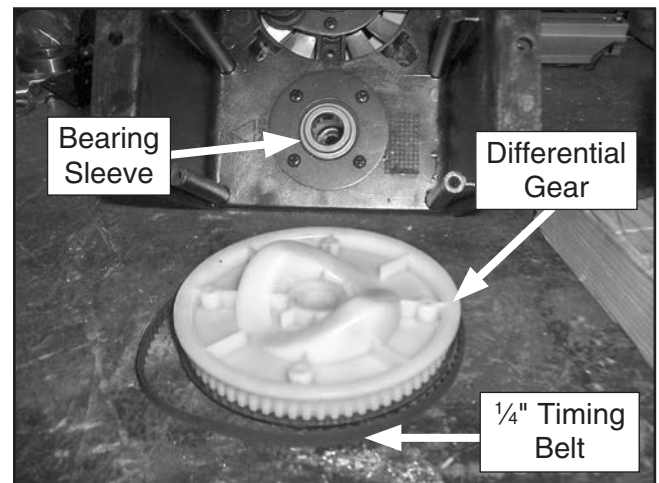

Figure 27. Location of bearing sleeve, with differential gear and $\frac{1}{4}$ " timing belt removed.
13. Make sure bearing sleeve (#58) shown in **Figure 27** behind differential gear (#57) stays in place.
14. Remove $\frac{1}{4}$ " timing belt (see **Figure 27**).